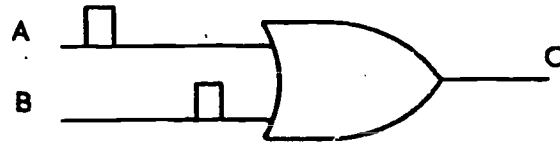

Figure 1-23. Figure for objective 001, exercise 10.
10. The OR-gate will have an output at C when the inputs to A and B (pulse inputs) are shown in figure 1-23. (True/False).